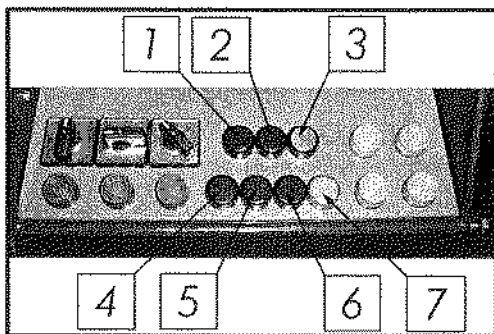

Figure 7-9. Signal lights
7.4.4 Signal lights (figure 7-9)